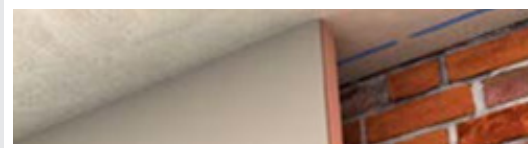

Figure 4
- When setting out, use a 2-3 mm thick packer or shim and a small offcut of Kingspan Kooltherm® K17 Insulated Plasterboard, place both onto the highest point of the wall, then use a straight edge and spirit level. Once plumb, draw a short line (Figure 4) across the floor and ceiling;